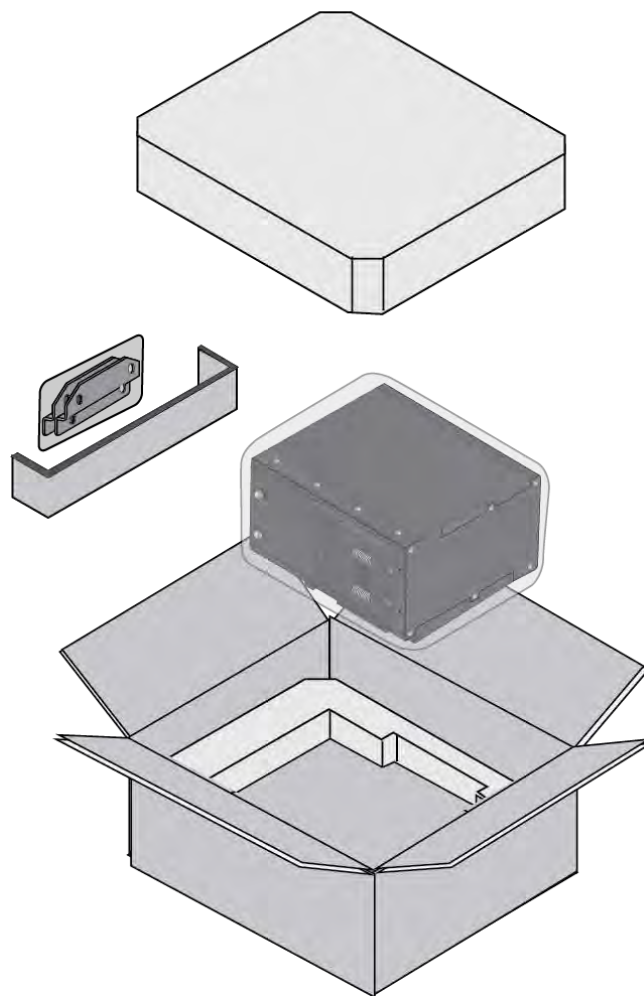

Figure 20. Removing the Switch from the Shipping Box
1. Remove all the components from the shipping box. Refer to Figure 20.